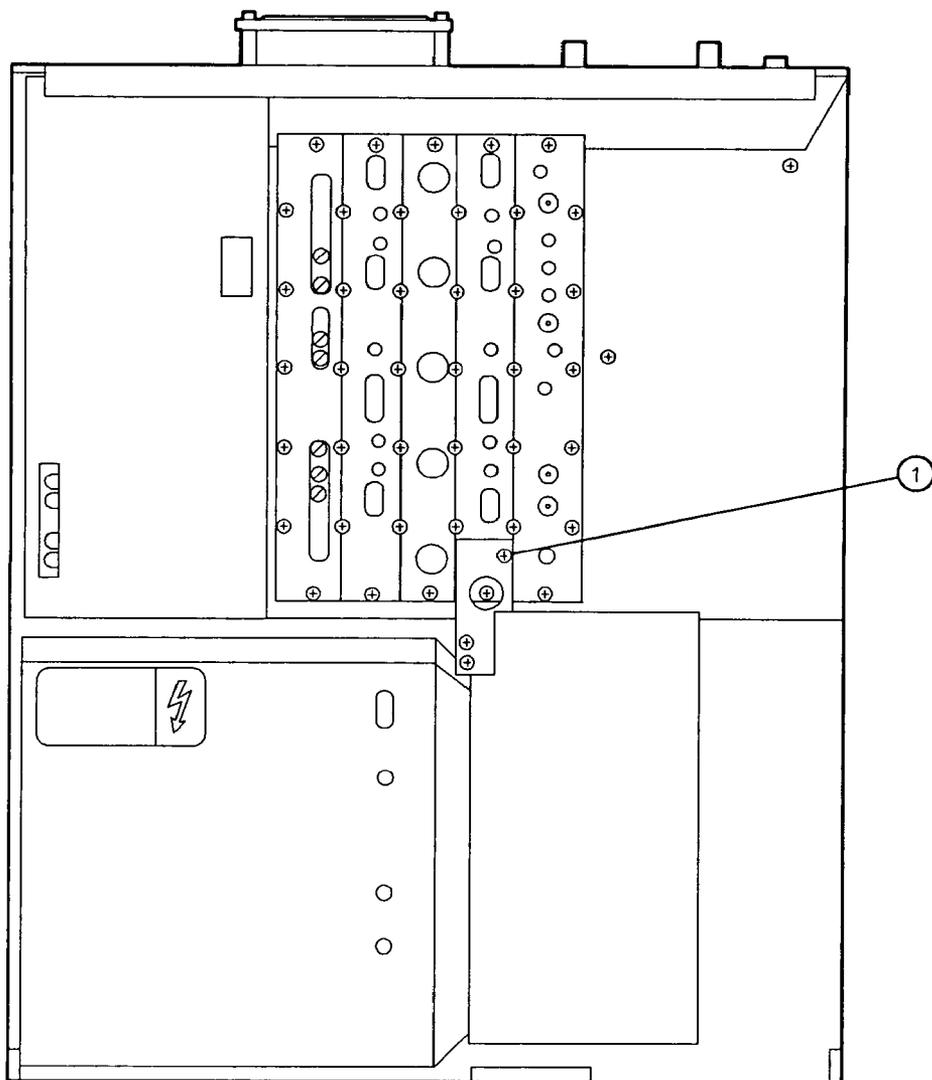
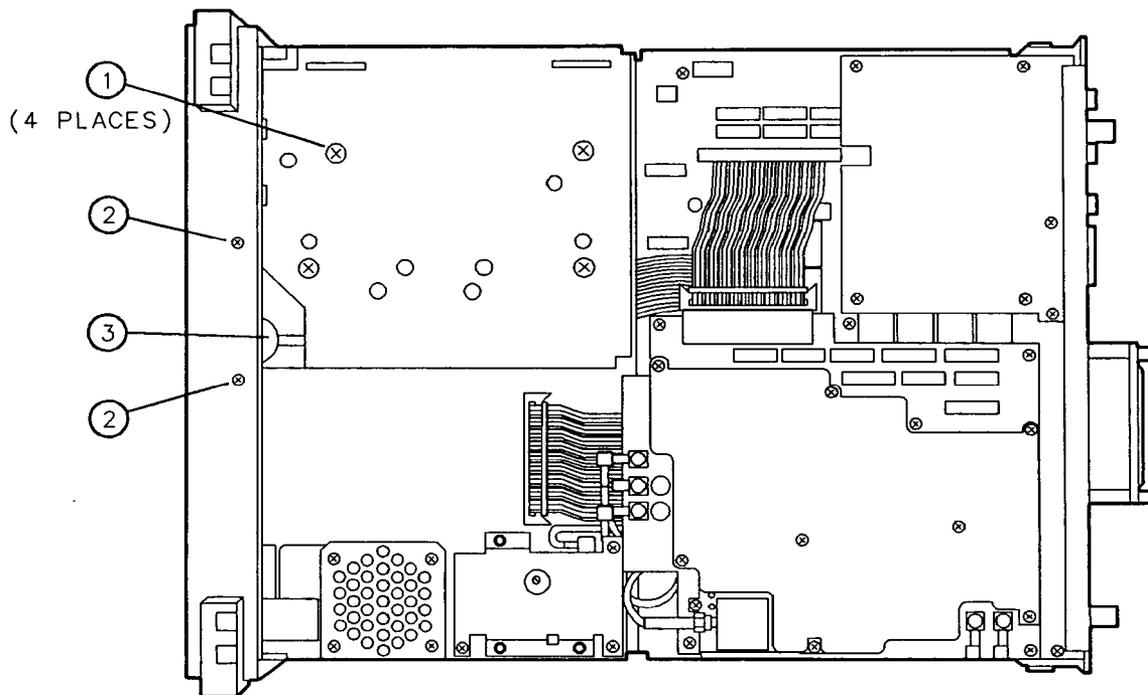

Figure 3-32. Placing the Front-End Assembly in the Analyzer
Figure 3-33. Securing the Front-End Assembly in the Analyzer
1. Place the new Front-End assembly in the analyzer as illustrated in Figure 3-32.
3. Secure the Front-End assembly to the analyzer using four screws (1). See Figure 3-33.
8. Replace the two screws (2) securing the bottom of the front frame to the main chassis. See Figure 3-33.
9. Tighten cable W10's connector (3) on the front-panel INPUT 50Ω connector.
11. Connect the black RF OUT cable W31 to the new front panel RF OUT connector. Route W31 along the bottom edge of the frame as shown in Figure 3-32.